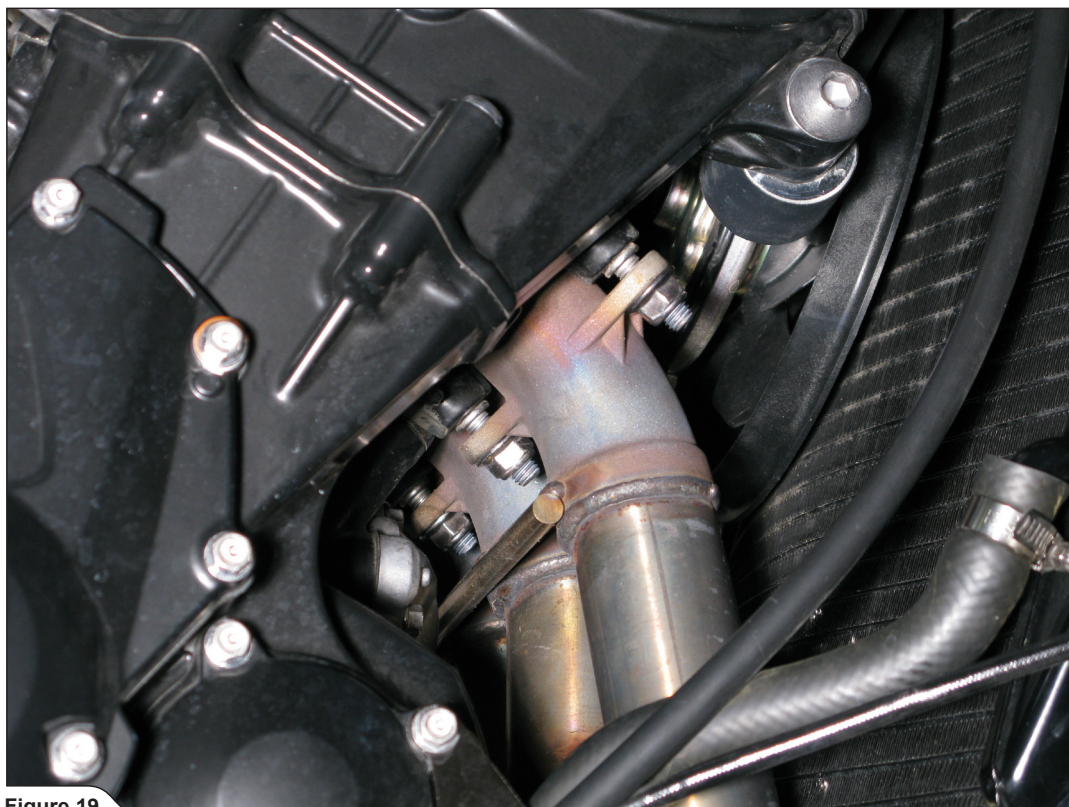

Figure 19
17. **For Racing exhaust system only:** unscrew all exhaust port flanges' nuts and remove the headers off the motorcycle (Figure 19).